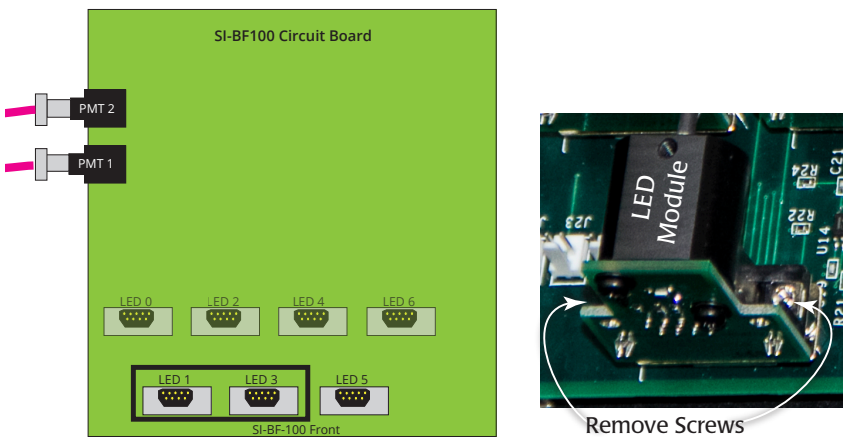

Fig. 19—(Left) The circuit board inside the Biofluorometer holds up to three LED modules and has two photomultipliers.
2. Lift the lid and remove it to reveal the circuitry inside. The seven LED ports are located in the front of the box. They are labeled 0–6 as shown in Fig. 19.